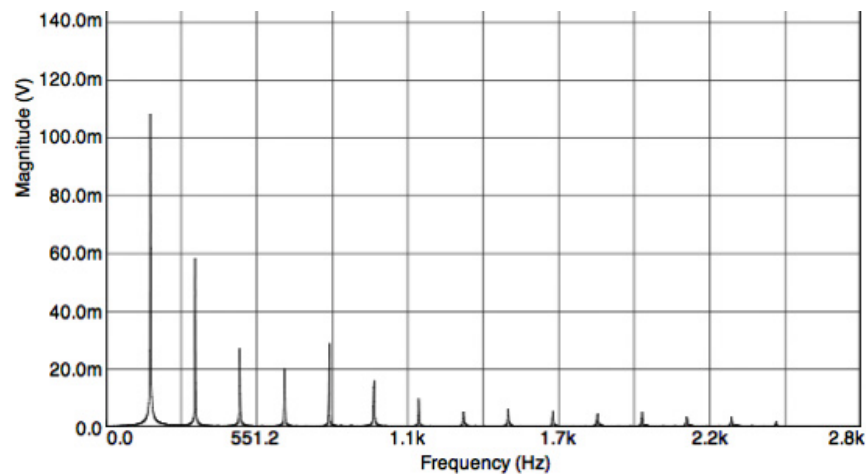

Figure 3: Sonometer string excited with a driver coil placed near one of the two bridges and harmonics recorded with an electromagnetic detector coil.
We can also study the resonance modes and frequencies of a stretched string using a sonometer. As shown in Figure 2, the string is excited with a driver coil and the vibrational modes are analyzed with a detector coil. A sample frequency spectrum is shown in Figure 3.
1. From Figure 3, estimate the fundamental frequency (1st harmonic) and the first three overtones (2nd, 3rd, and 4th harmonic) of the vibrating string. Is there a simple relationship between these frequencies?